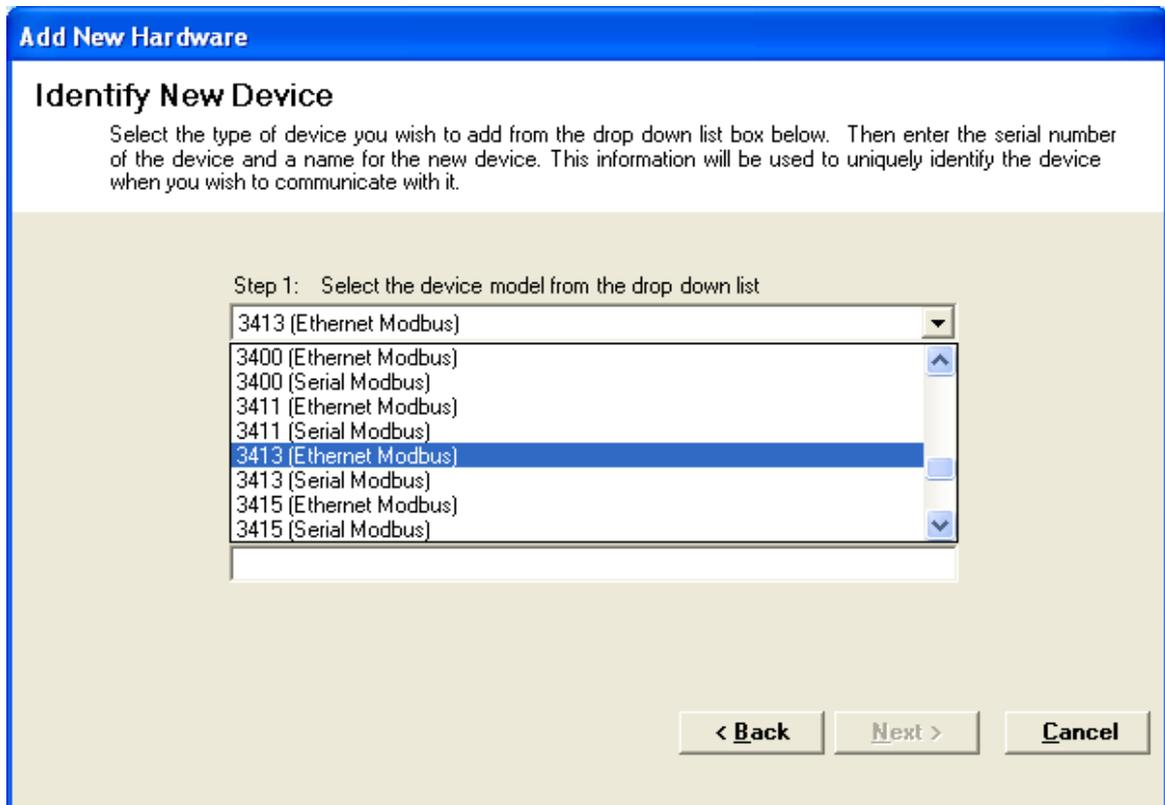

Figure 6 Identify New Device
2. Click **NEXT** to continue. The Identify New Device screen is show. (Figure 6)